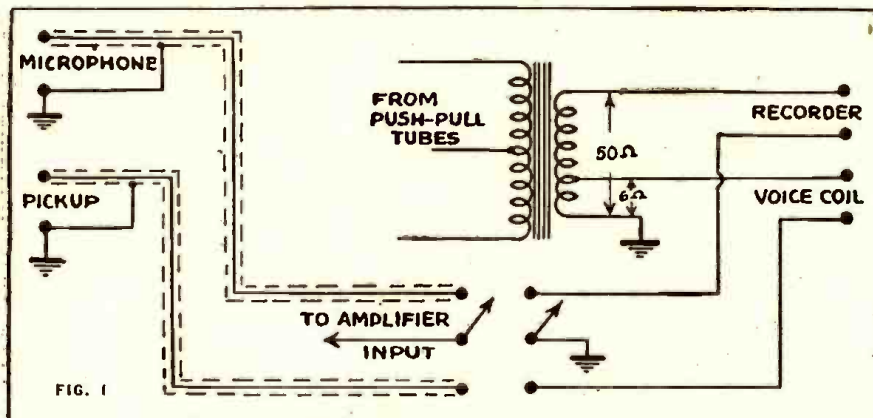

FIG. 1
**A.** The circuit shown is suited for your recorder, which has an input impedance of 50 ohms. Since you did not state the impedance of your voice coil, I am assuming it to be 6 ohms. A voice coil of different impedance would, of course, have to be tapped into the correct section of the output transformer. (See Fig. 1.)